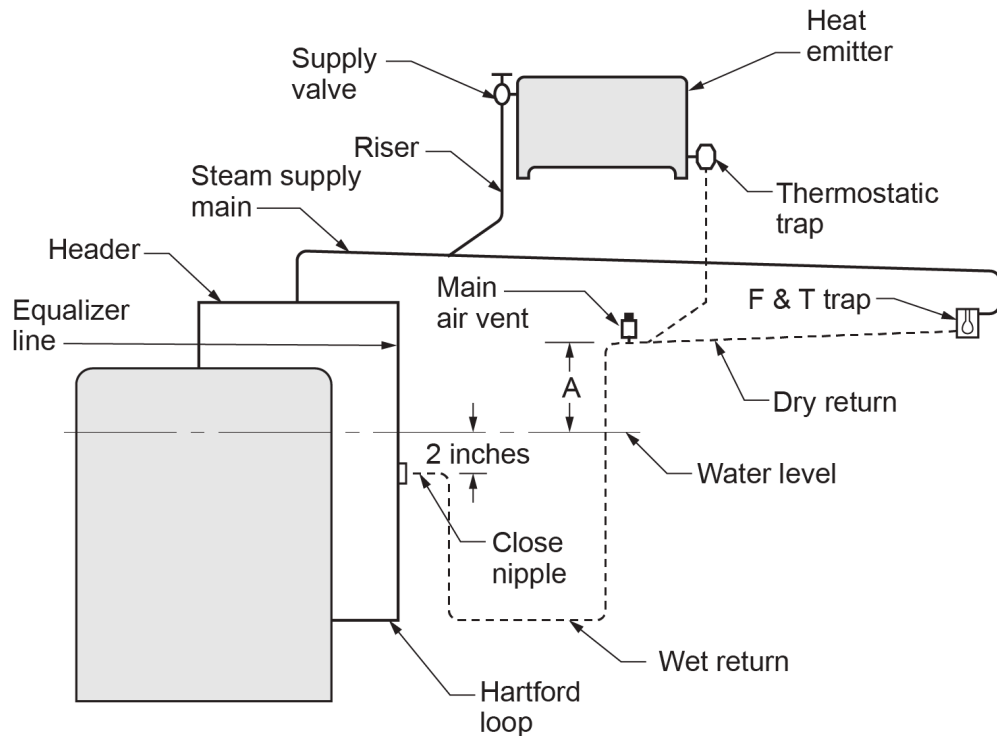

Figure 1 Steam heating components. (Skilled Trades BC, 2021) Used with permission.
- **Figure 1** Comparison of the various temperature scales ([https://commons.wikimedia.org/wiki/File:Temperature_scales_comparison_\(K,R,C,F\).svg](https://commons.wikimedia.org/wiki/File:Temperature_scales_comparison_(K,R,C,F).svg)) is by Stephen Baltakatei Sandoval (2023) via Wikimedia and is used under a CC BY-SA 4.0 (<https://creativecommons.org/licenses/by-sa/4.0/deed.en>) licence.
Long Description: Figure 1 Comparison of the Various Temperature Scales
Back to Figure 1 (#Fig1)
The following is a list of some more common components found in low-pressure steam heating systems, some of which are shown in Figure 1.